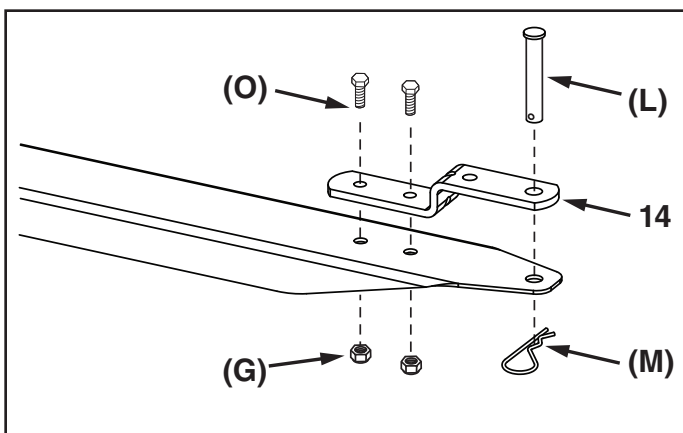

FIGURE 19
STEP 19: (SEE FIGURE 19)
- Attach the hitch bracket (14) to the 5/8" axle tongue using two 5/16" x 3/4" hex bolts (O) and 5/16" nylock nuts (G). Install the clevis pin (L) through the holes in the hitch bracket (14) and the 5/8" axle tongue and secure with a 1/8" hair cotter pin (M).